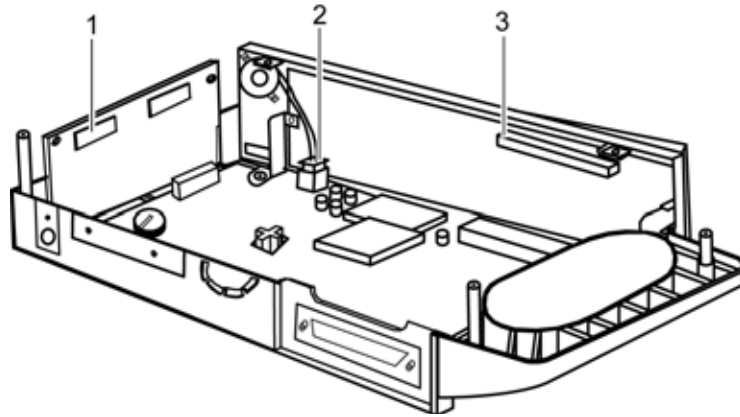

Figure 17: Front case Wiring
3. Disconnect the SpO₂ cable connector from the MP-506 PCB. See Figure 17 item 1.